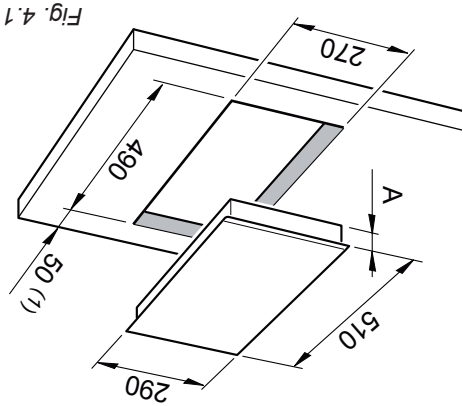

Fig. 4.1
- Cut the unit according to the dimensions in fig. 4.1.
- This cooktop can be built into a working surface 30 to 40 mm thick and 600 mm deep. In order to install the ceramic hob into the kitchen fixture, a hole with the dimensions shown in figure 4.1 has to be made, keeping in consideration the following: